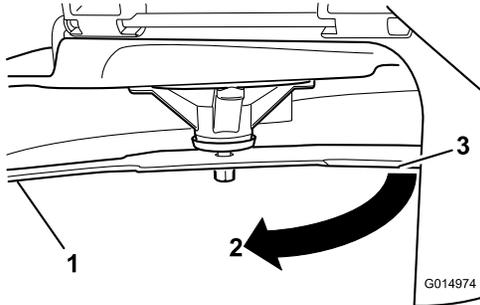

**Figure 64**
5. Measure from the tip of the blade to the flat surface (Figure 64).